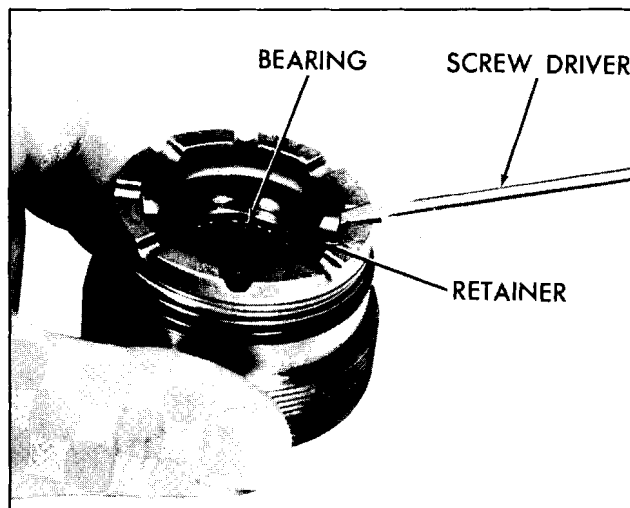

Fig. 9-87 Removing Retainer
- a. Pry the thrust bearing retainer at the two raised areas with a small screw driver (Fig. 9-87).